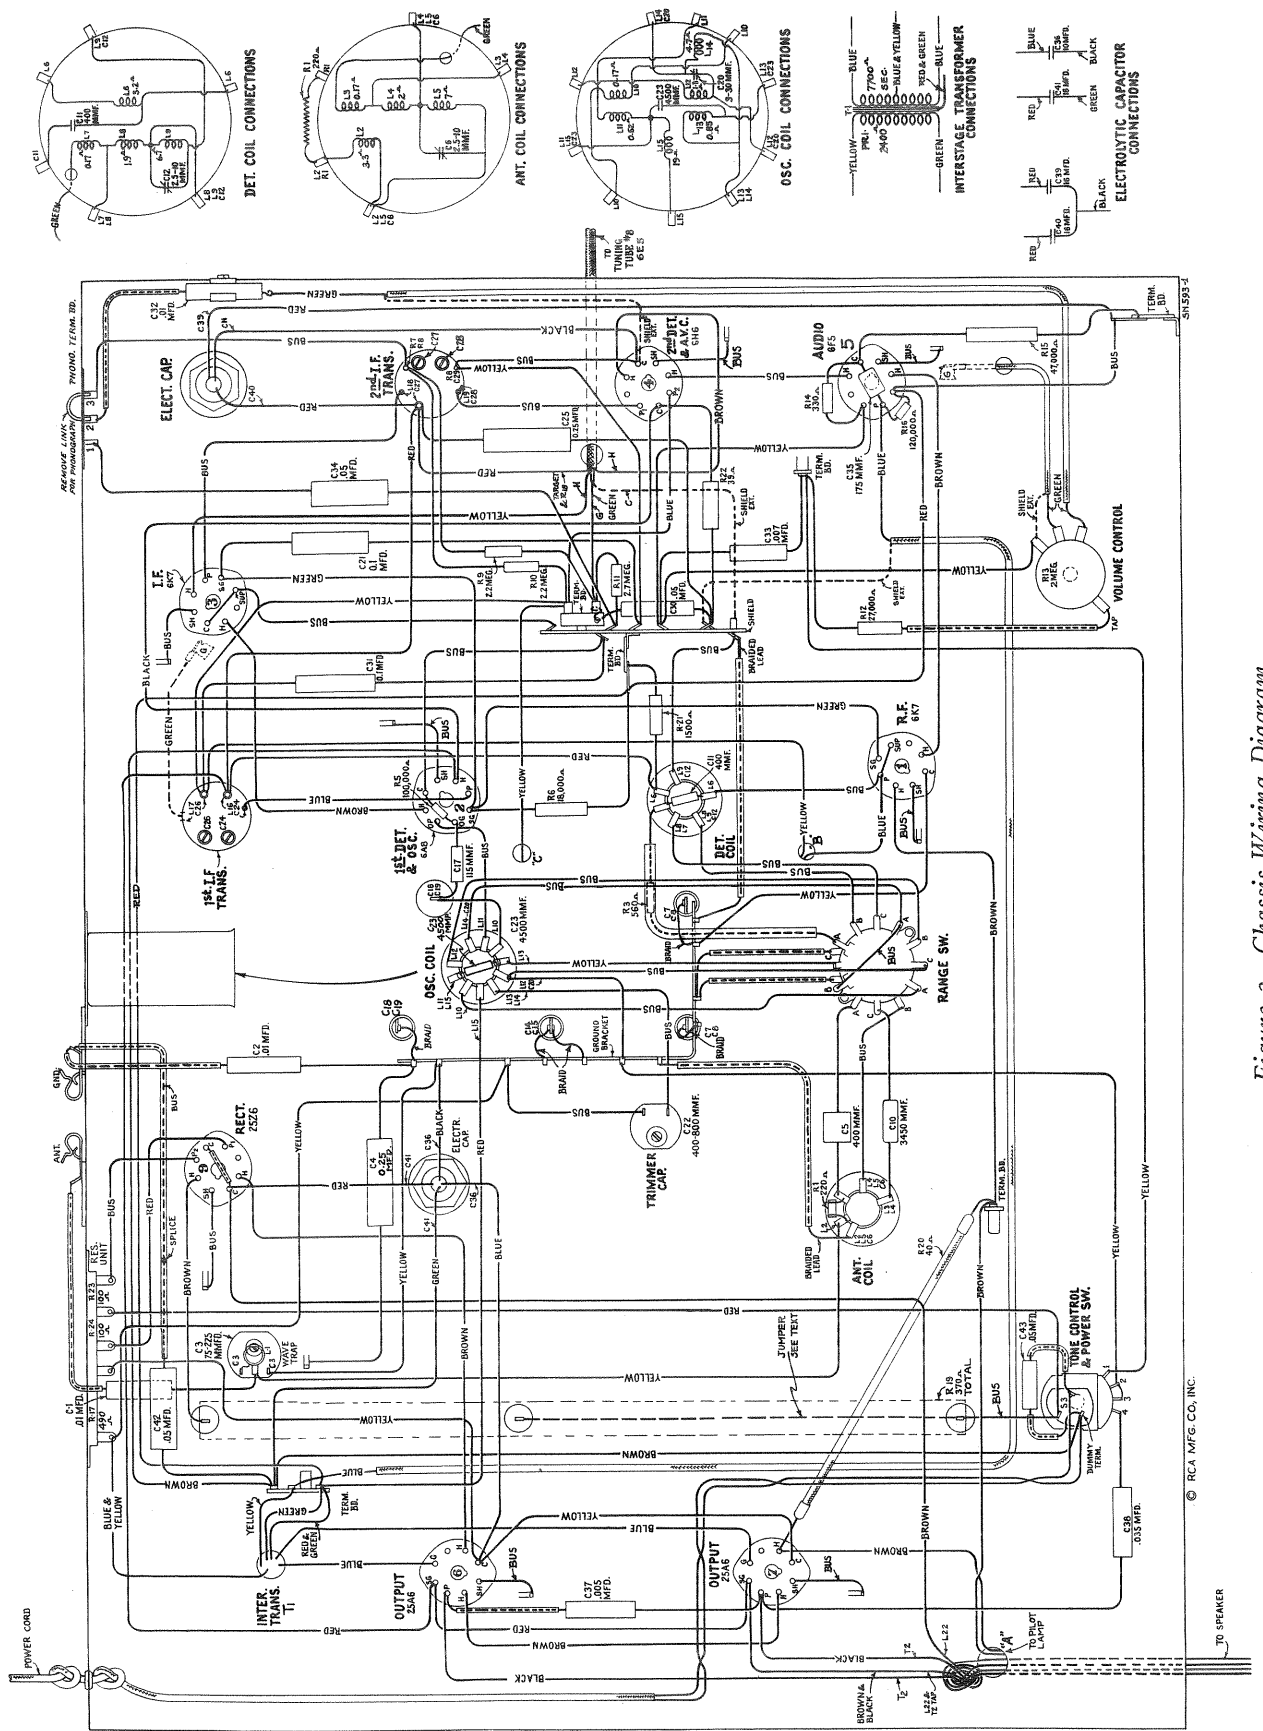

Figure 2—Chassis Wiring Diagram
**NOTE:** (Power Supply Rating) As shipped from the factory, all instruments are connected for operation on a 200-250-volt supply line. They may be converted for operation at 140-160 volts by connecting a jumper between points shown by dotted line on resistor R-19, Figures 2 and 3.